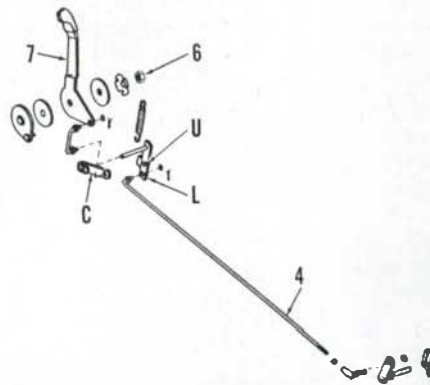
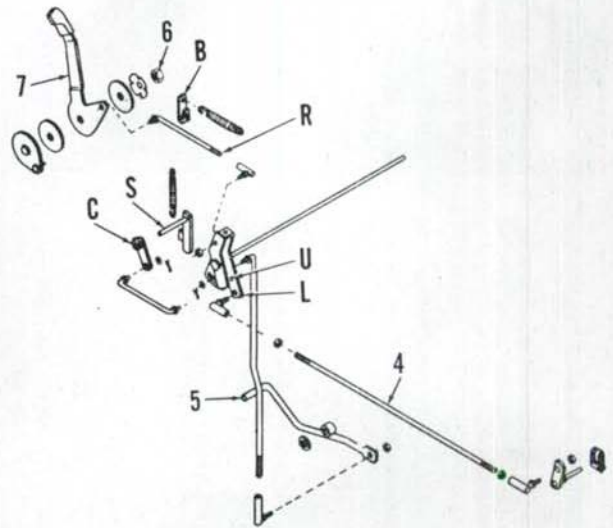

Fig. 46—Drawing of throttle control linkage typical of all except Orchard models. Refer to text for points of adjustment and to Fig. 47 for legend.
Fig. 47—Drawing of throttle linkage typical of Orchard models.
Initial adjustment of linkage can be accomplished as follows: Measure length of rod (3—Fig. 48) from centerline of rod end at top to lower end of sleeve inside spring. Correct distance is 236.5 mm (9-5/16 inches) for MF230 models; 239.7 mm (9-7/16 inches) for MF235 and MF245 Orchard models; 242.9 mm (9-9/16 inches) for all other MF235 and MF245 models. Correct length from center-to-center of rod (4—Fig. 46 or 47) is 565.2 mm (22-1/4 inches) for MF235
and MF245 Orchard models; 701.7 mm (27.5/8 inches) for all other models. Rear end of throttle rod (4) should be in upper hole (U) for rear spring arm for MF235 and MF245 models; lowest hole (L) of rear spring arm for MF230 models. On Orchard models, length of rear rod (R—Fig. 47) should be 177.8 mm (7 inches) and spring bracket (B) should be clamped to rod 120.7 mm (4-3/4 inches) from centerline of ball joint at front. Loosen clamp arm (C), align with arm (S), then retighten clamp. On all except Orchard models, loosen clamp arm (C—Fig. 46) and position hand lever 6.4 mm (1/4 inch) from low speed stop position. Move the governor arm lever (2—Fig. 48) towards carburetor (closed position), then tighten clamp arm (C—Fig. 46.)